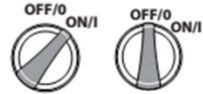

Fig.5
5. Set the power switch to position "I". (Fig.5)